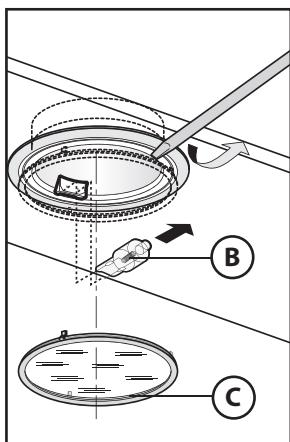

Fig.6
• **Byta halogenlampor (Fig.6):**